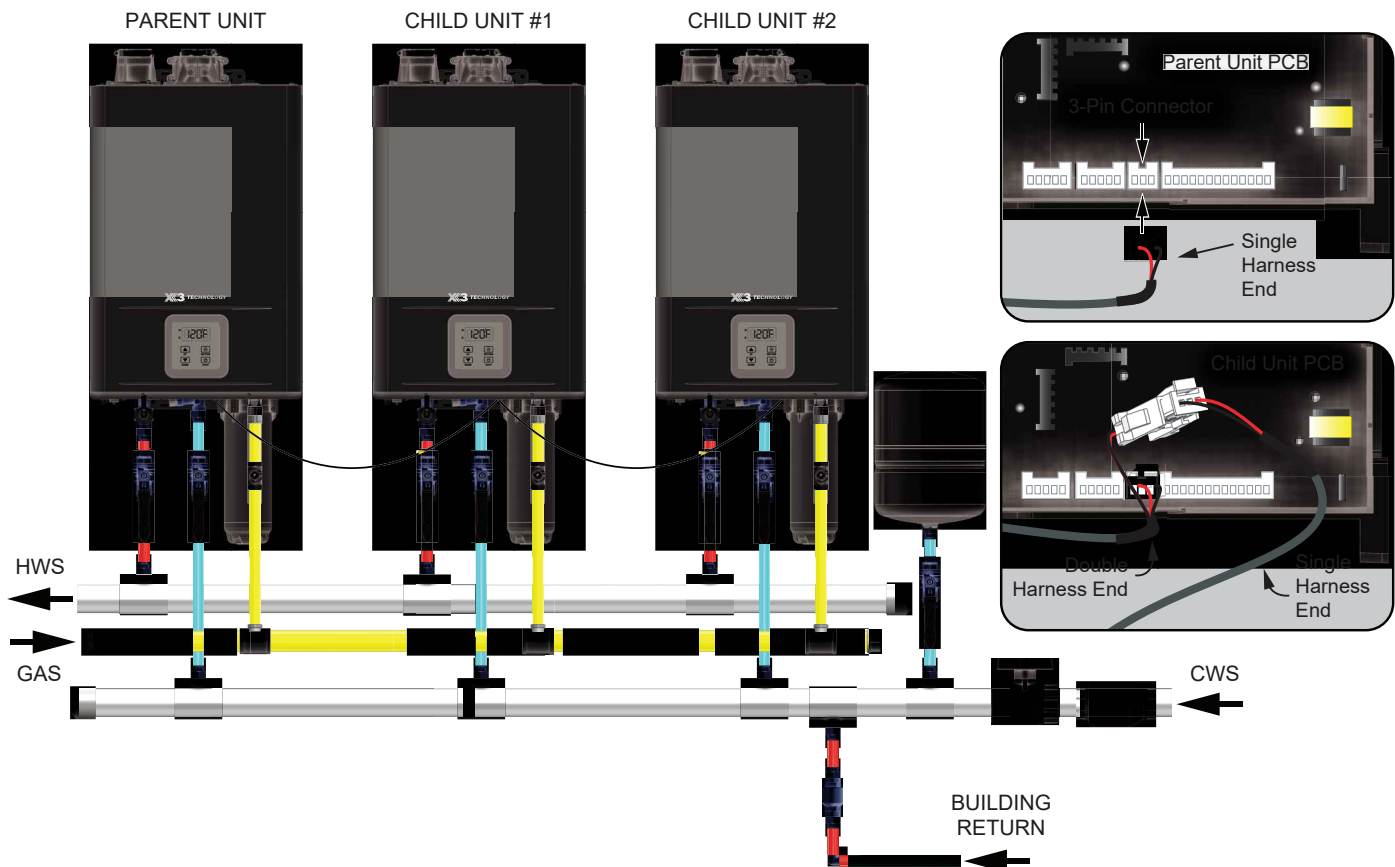

Figure 44 - Multi Unit Cascade Configuration
- 1 The Cascade system should be configured with the Parent water heater as either the first or last in the series of water heaters connected to the cold water supply. The Child units will follow sequentially. See Figure 44.
- 7 Use Figure 44 as a reference to locate the connection point for the Parent Cascade Unit. Use the single harness end of the Cascade Linking Cable to make the initial connection.
- 9 If more than one Child water heater is used then route the single harness end of the second Cascade Linking Cable through the rubber grommet on the bottom of the first Child water heater and connect it to the open harness on the first Cascade Linking Cable as shown in Figure 44.